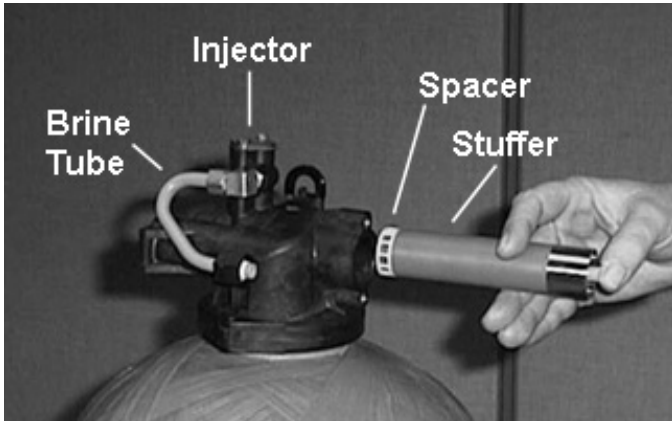

Figure 9
11. To replace seals, spacers and end ring, use special tool with the brass sleeve on one end. This is a double-purpose tool (see Figure 9). The male end acts as a pilot to hold the spacers as they are pushed into the valve body and the brass female end is used to insert the seals into the valve body.